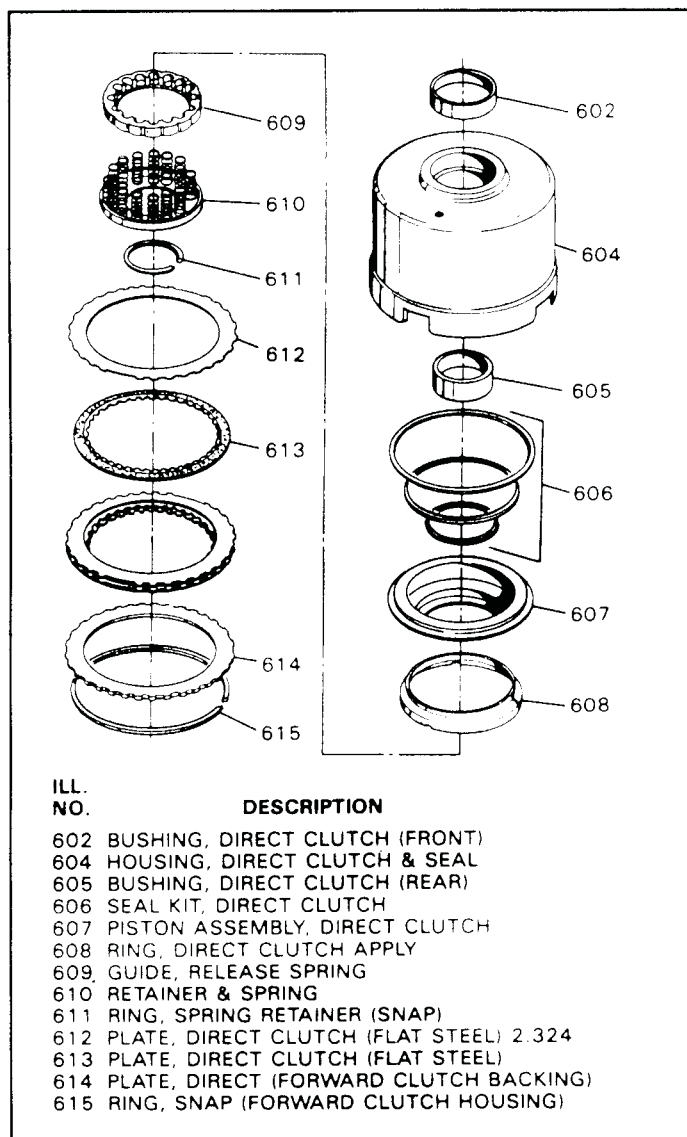

Figure 88
19. Install clutch apply ring into direct clutch piston, as shown in Figures 88 and 91.
28. Install the return spring assembly (610) into the direct clutch drum as shown in Figure 88, and lay the snap ring on top of the retainer.